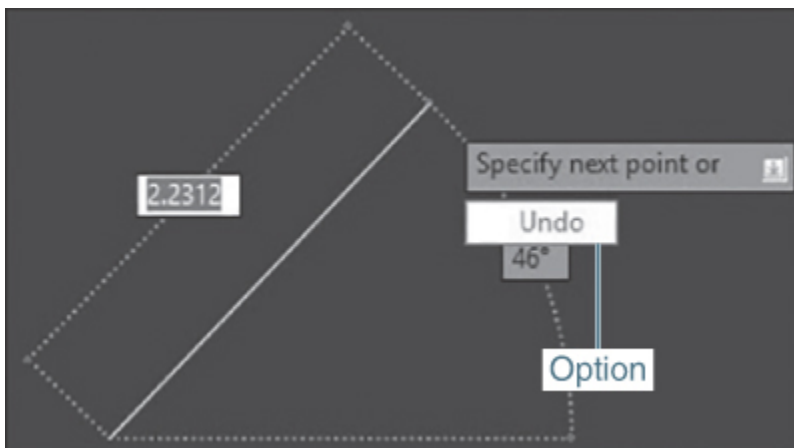

Figure 2-11
- 5** AutoCAD prompts you to *Specify next point or* ↓. The down arrow indicates that a command option is available. Press the down arrow key, and you'll see the **Undo** option appear (see Figure 2-11).